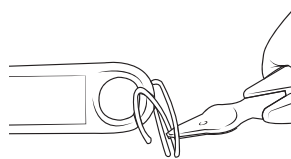

FIG. 2
2. Slide the open end through desired location on the tool and twist until the ring is fully captured on the tool. (Fig. 2)